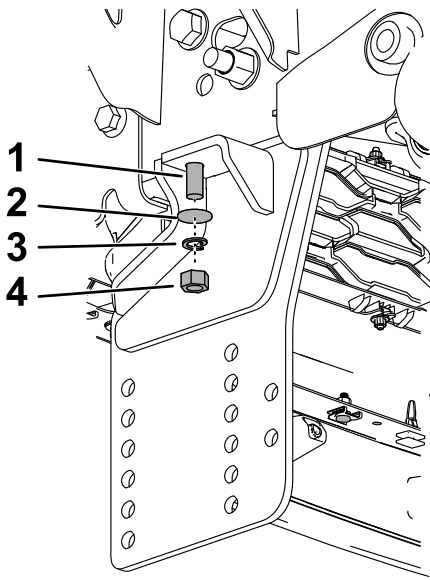

**Figure 3**
4. Loosely secure the sideplates to the vehicle frame using the fasteners shown in Figure 3.